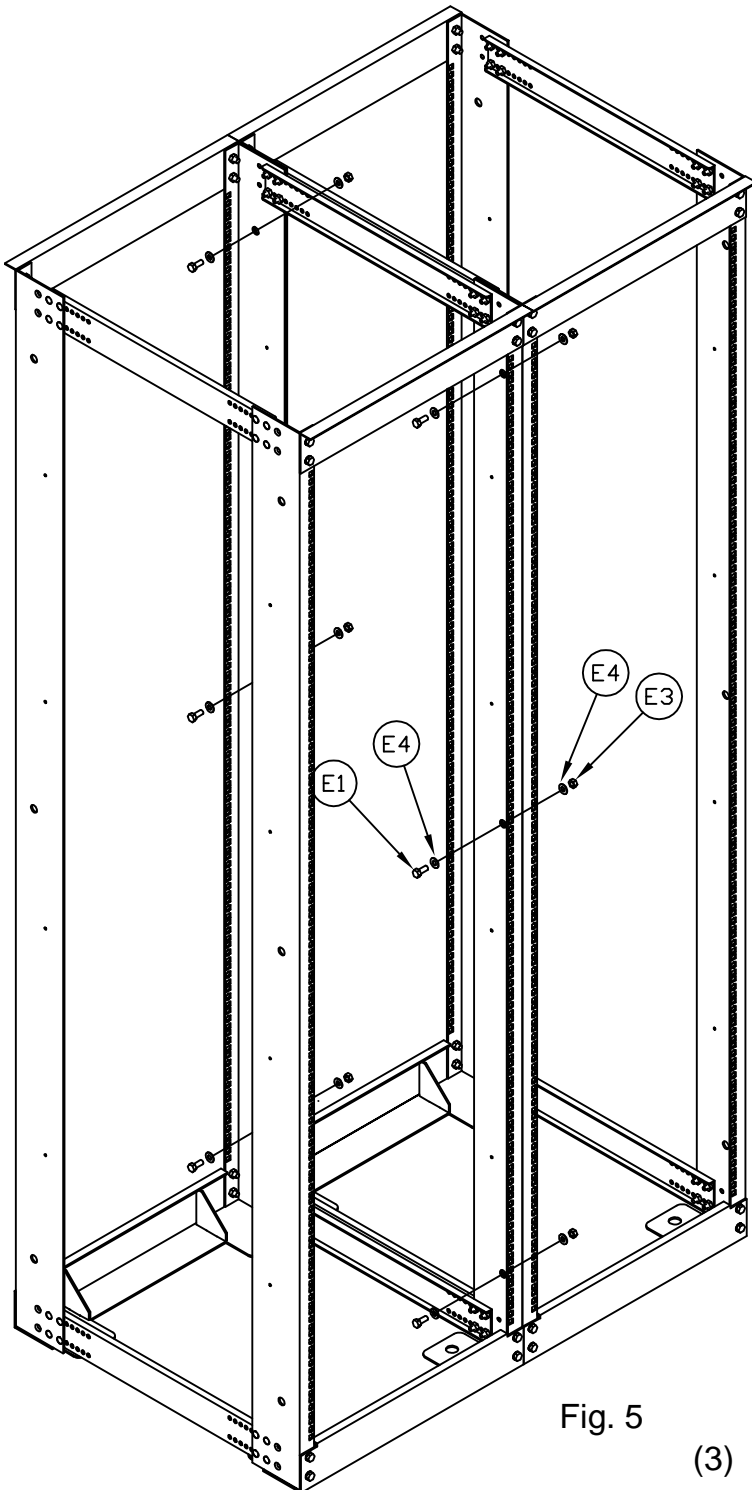

Fig. 5
7. Attach Racks using Screws (E1), Washers (E4), and Nuts (E3). (6 places) See Fig. 5